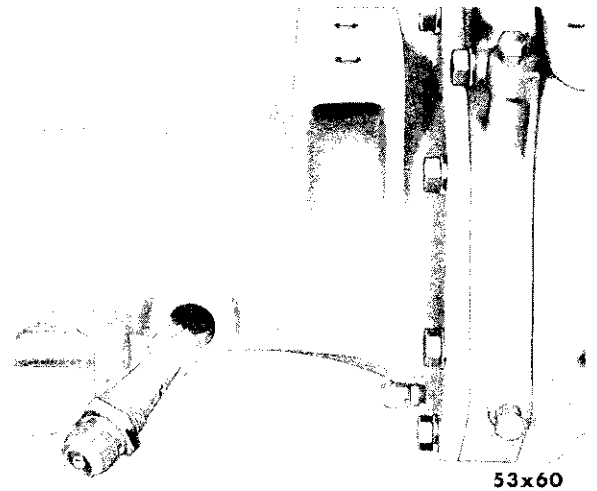

Fig. 12—Removal and Installation of Speedometer Drive Pinion
(1) Remove the speedometer drive pinion and sleeve assembly, as shown in Figure 12. **The nylon gear can be easily damaged if extension housing is removed without first removing the speedometer drive pinion.**
(2) Inspect the output shaft rear bearing oil seal and remove, if necessary, by using puller, Tool C-748. Remove any burrs from counter-bore of extension housing.
(3) Remove the seven transmission extension to case screws and lockwashers.
(4) Install guide studs, Tool C-3283, and remove